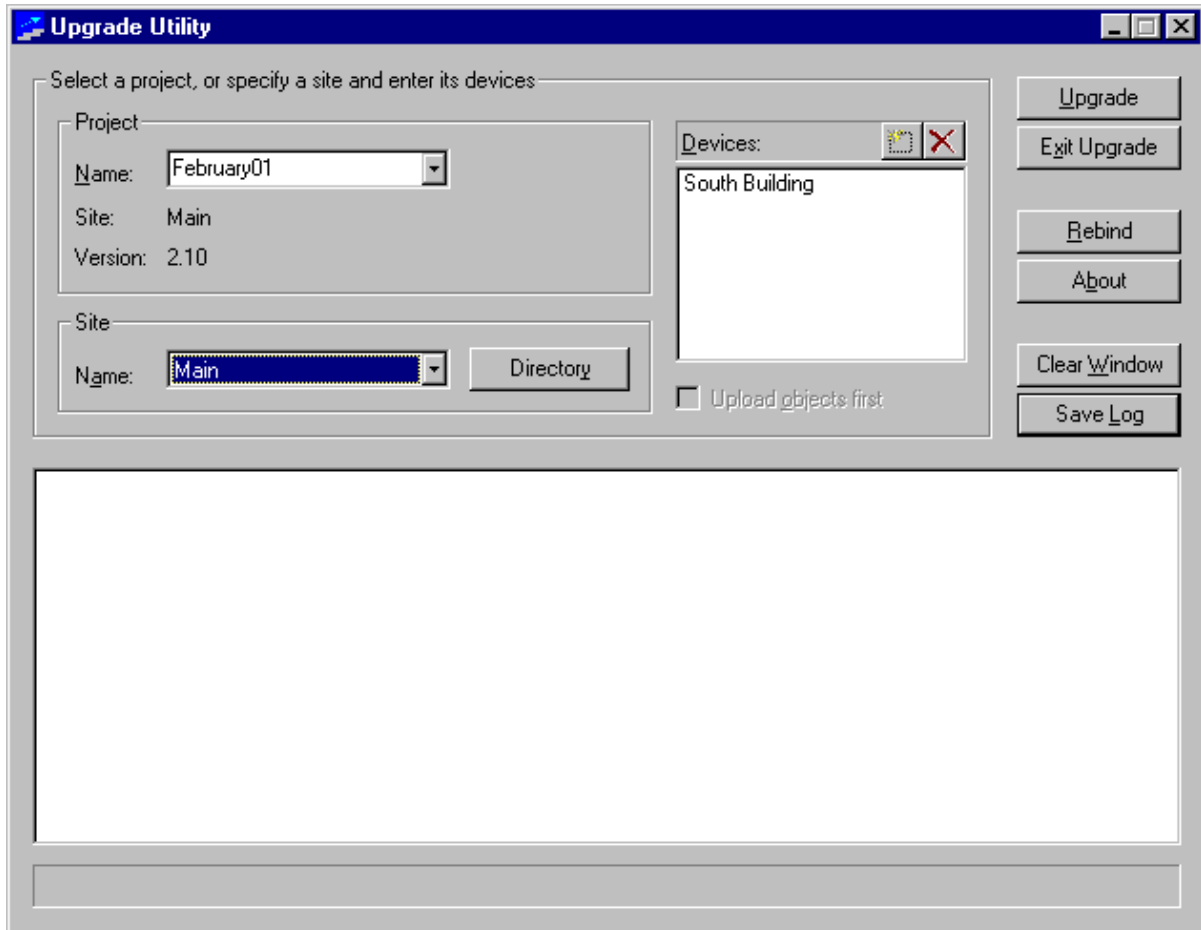

Figure 11-7: Upgrade Utility Screen
3. Select Programs > Johnson Controls > M-Tool > System Tools > N30 Upgrade on the Windows operating system Start menu. The Upgrade Utility screen appears (Figure 11-7).